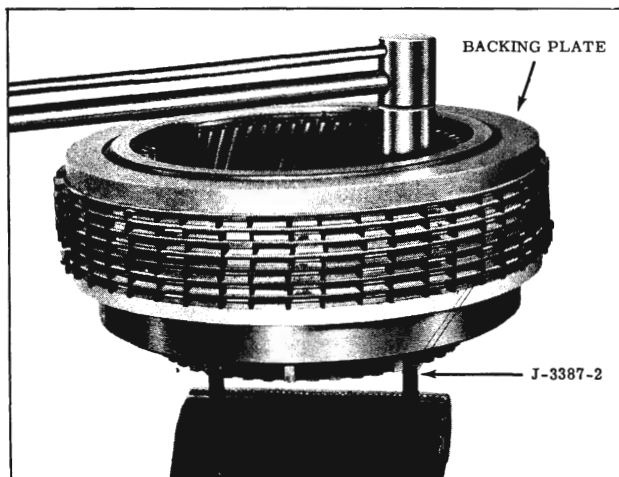

Fig. 3-78 Assembly of Front Clutch
9. Insert Tool J-3387-2 into dowel holes in back side of front clutch assembly, then install front clutch assembly with studs into vise so studs are retained by vise jaws. (Fig. 3-78)